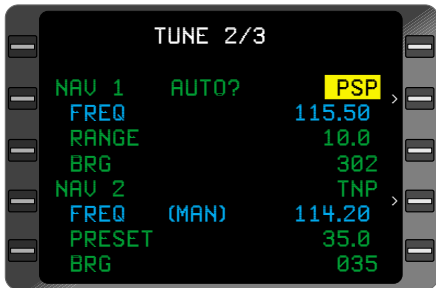

Figure 3-150
3. **BACK** Key - DEPRESS, **AUTO?** is displayed in place of **(KEY)** or **(MAN)**. (Figure 3-150)